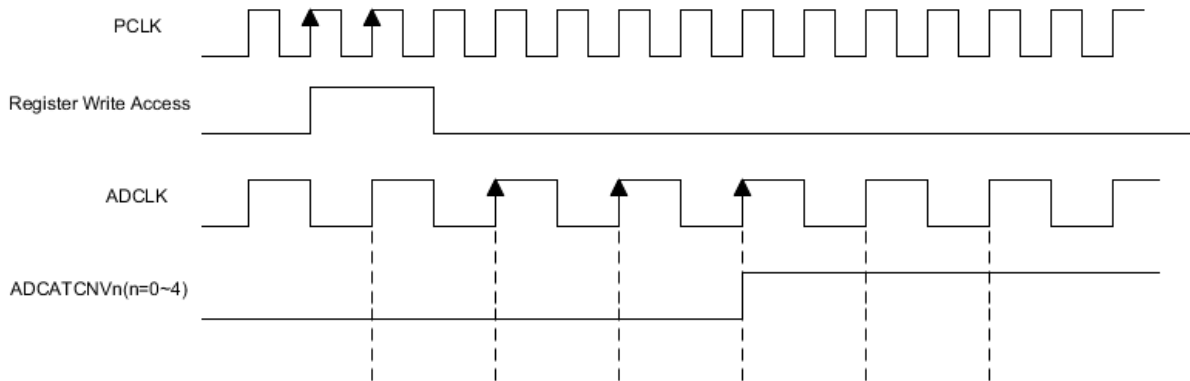

**Figure 6.2: Hardware Trigger behavior of Scanning group 4 (PWM-Diag)**
- (1) Refer to HWM[2] chapter: 1.16.1.2, 1.16.15.
- (2) The Figure 6.2 shows the behavior of PVCN\_TRG. When HW trigger of PWD-Diag is asserted, after 1 PCLK period and 2 ADCLK (from next rising edge of ADCLK), the corresponding ADCATCNV4 is asserted and the scanning process is started.